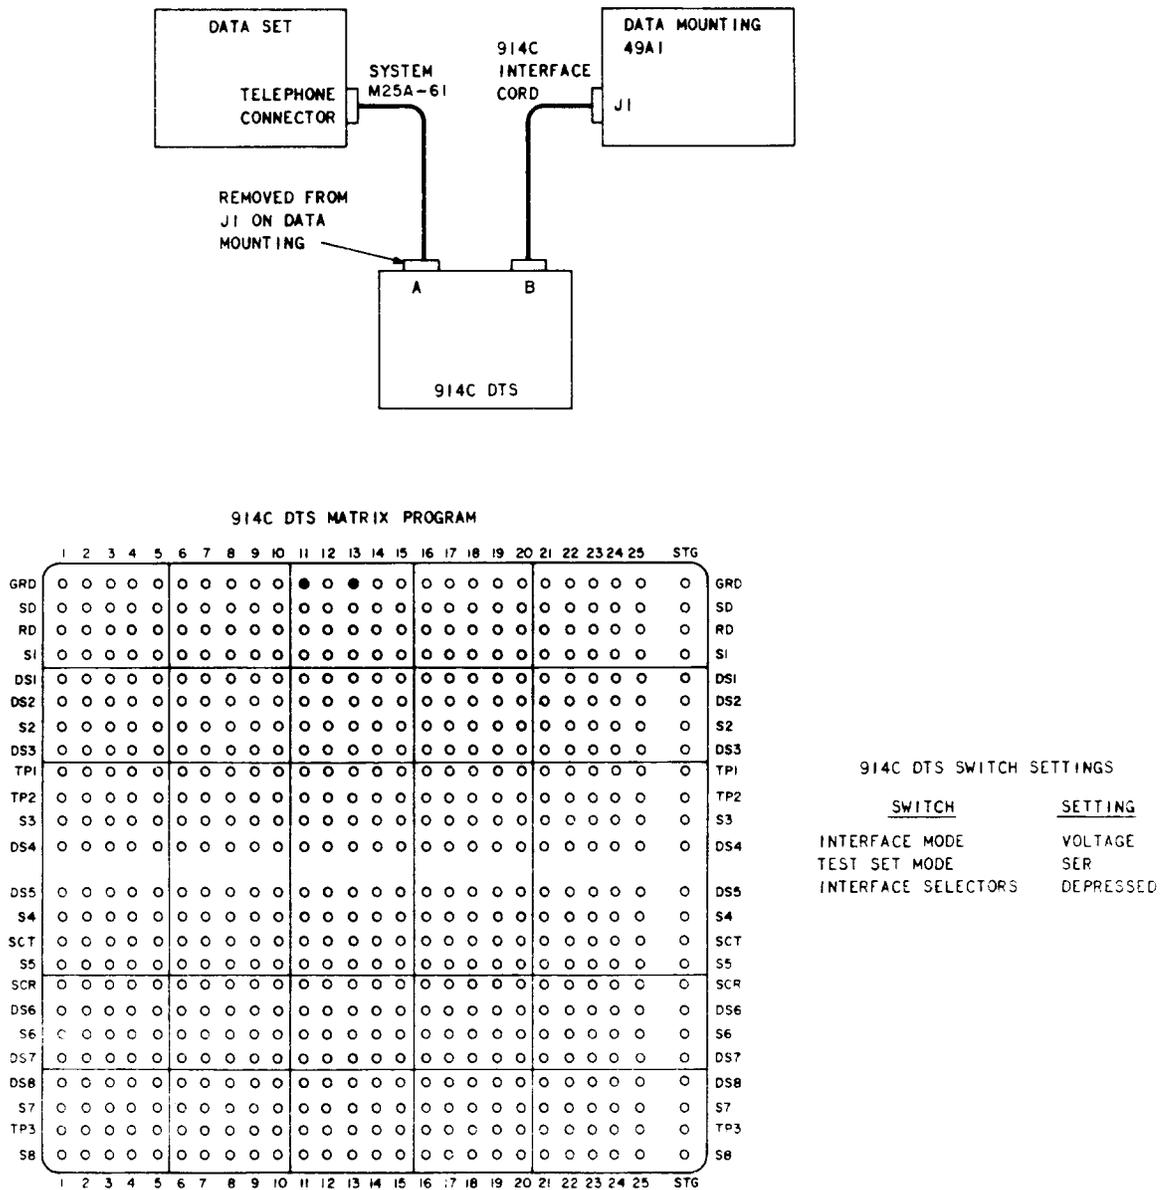

Fig. 1—Setup for Power Supply Test Using 914C DTS
- Prepare the test setup shown in Fig. 1.